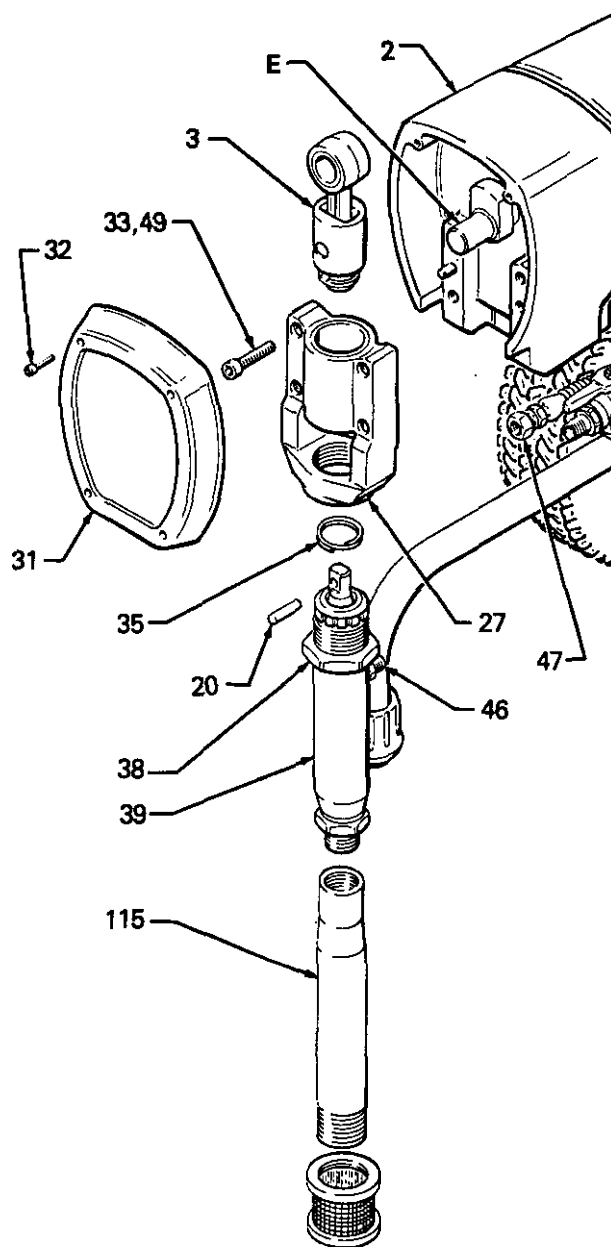

Fig 27
BEARING HOUSING & CONNECTING ROD REPLACEMENT (See Fig 27)
15. Screw the displacement pump about $3/4$ of the way into **the** bearing housing (27). Hold the pin (20) up to the pin hole in the connecting rod assembly (3) and continue screwing in the pump until the pin slides easily into the hole. Back off the pump until the top threads of the pump cylinder are flush with the face of the bearing housing and the outlet nipple (46) is facing back. Push the retaining spring (35) into the groove all the way around the connecting rod. Tighten the jam nut (38) to 94 N·m (70 ft·lb) – very tight to prevent it from loosening which will damage the bearing housing. See Figures 27 and 28.